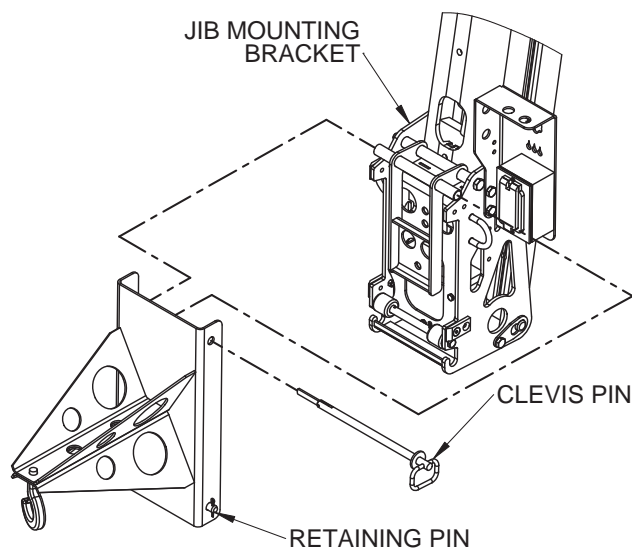

Figure 8-4. Material Lifting Hook Installation
- Attach the material lifting hook to the jib mounting bracket on the boom nose, re-insert the clevis pin. See Figure 8-4.